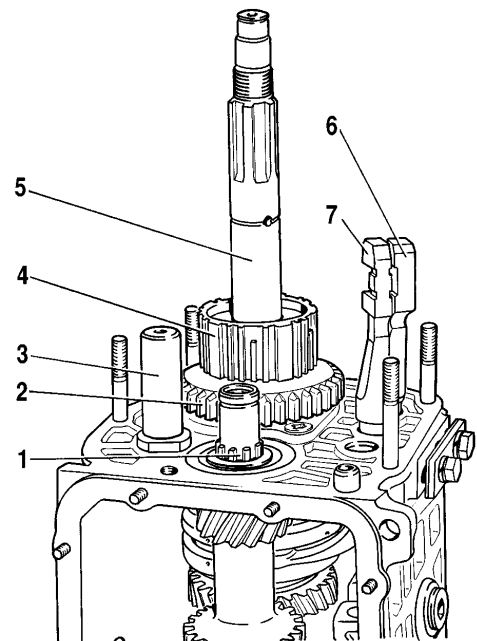

Fig. 3-24. Removing the 5th syncho unit hub/reverse driven gear:
With the help of a special mandrel (like a screwdriver) remove the 5th synchro unit hub together with reverse driven gear 2 from key 4 (fig. 3-24).